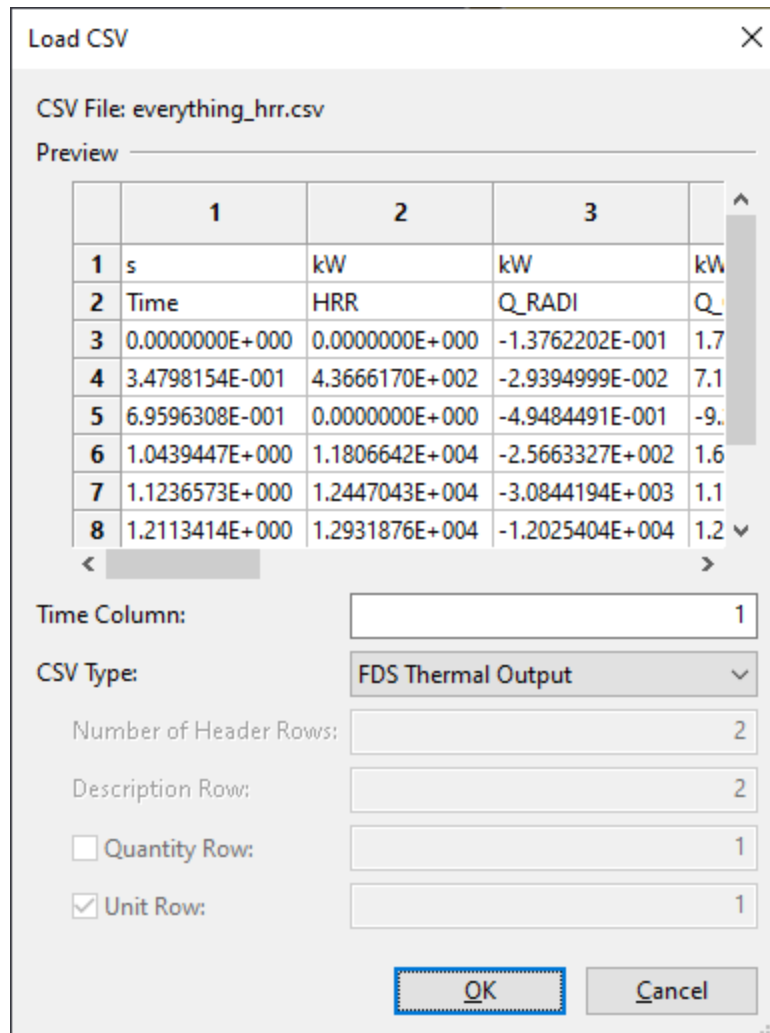

Figure 105. Load CSV Dialog
5. Enter the required information in the **Load CSV** dialog as shown in Figure 105 and click **OK**.